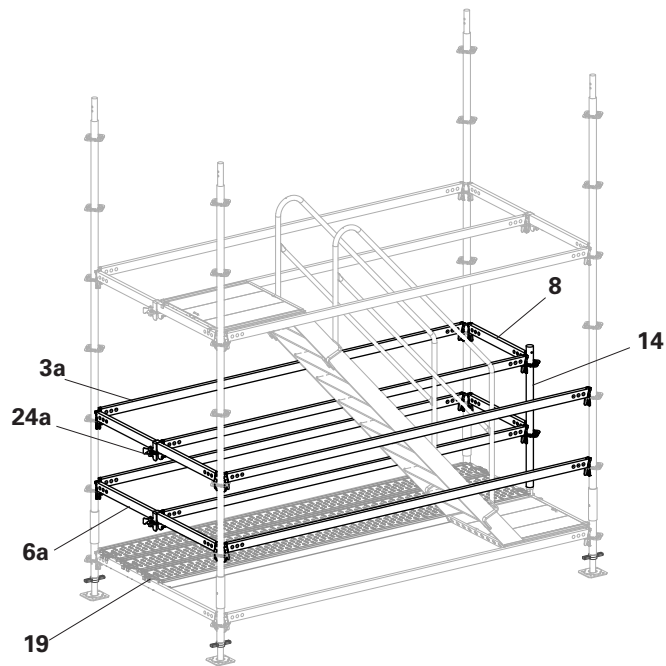

Fig. B10.05
1. Re-position Steel Decks UDG-2 (19) in the position shown.
2. Remove the Horizontal Ledgers UH-2 300 (3a), Ledgers UH-2 150 (6a), Ledger UH-2 75 (8), Ledger Brackets UHA Half (24a) and Top Standard UVH-2 100 (14). (Fig. B10.05)